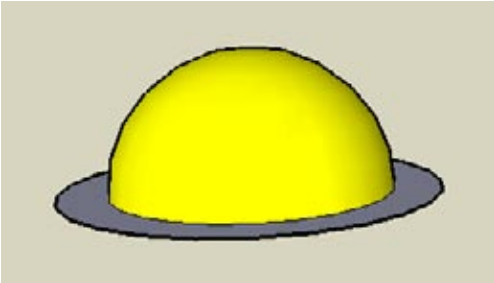

Figure 2-78
3. Select the circle, and use Follow Me on the half-circle. This produces the half-sphere shown in Figure 2-78.